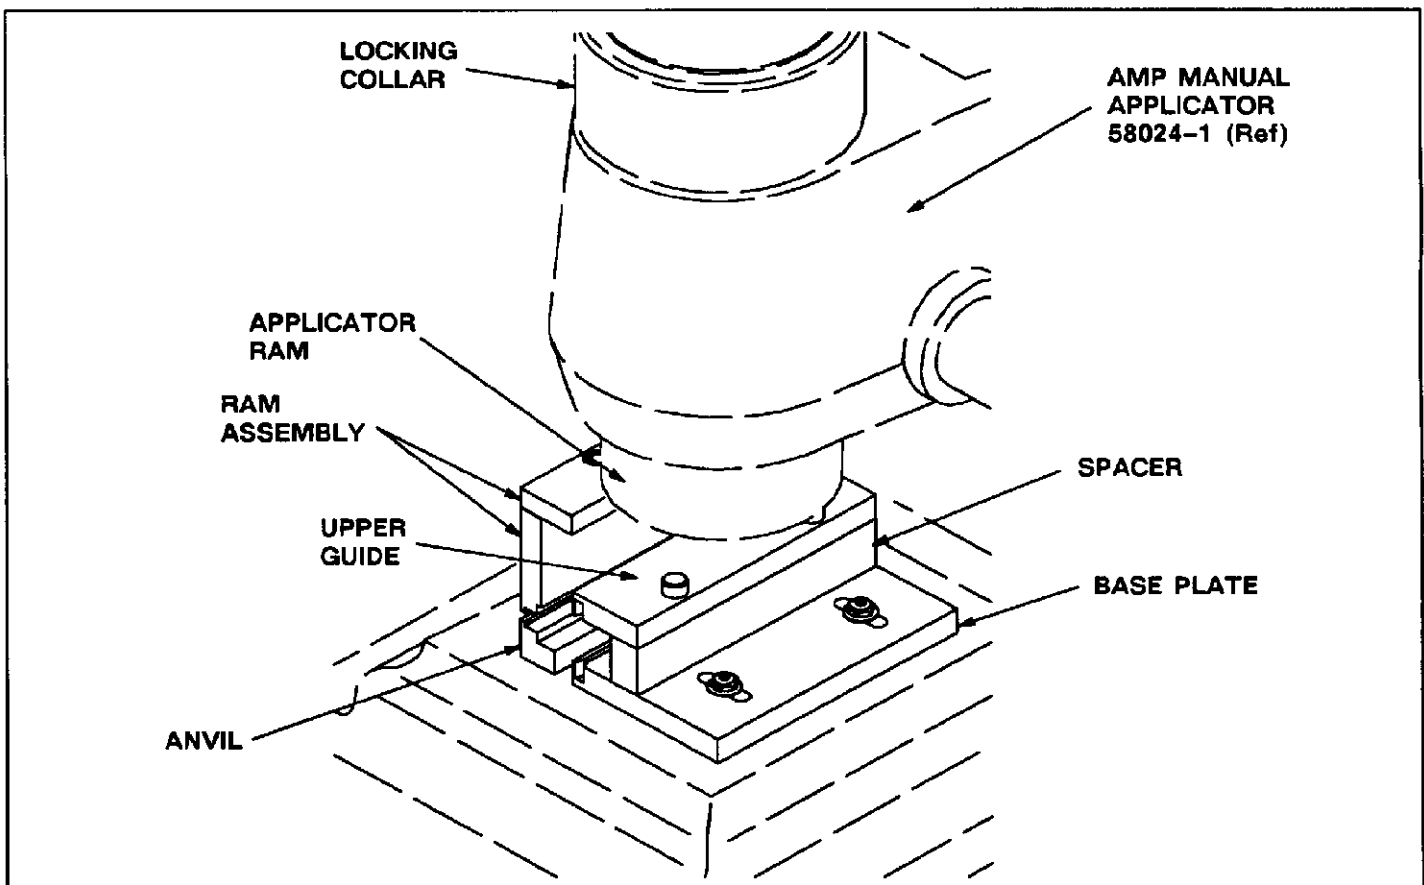

Fig. 1
2. DESCRIPTION (Figure 1)
Refer to Figure 1 and proceed as follows:
With the tooling installed in the manual applicator as shown in Figure 1, remove the guide plate and rotate it